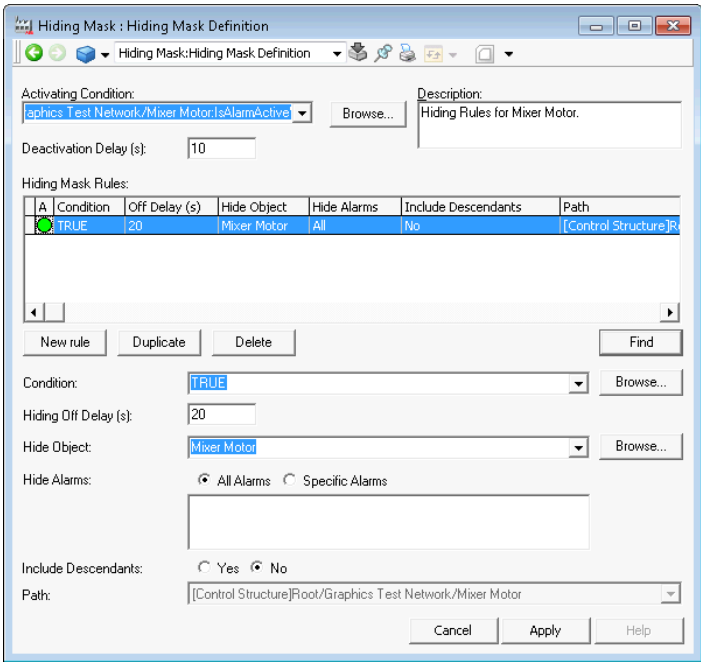

Figure 35. Hiding Mask Definition
- **New Mask** - Select **New Mask** to create a new Hiding mask. To edit a Hiding Mask, double-click on the Mask or select a Mask and click **Edit Rules** (refer to Edit Rules). This opens the **Hiding Mask Definition** dialog box, refer to Figure 35.
Click **Apply** on the new created mask and then **Edit Rules** to add a Hiding Rule. The Hiding Mask Definition dialog appears, refer to Figure 35.